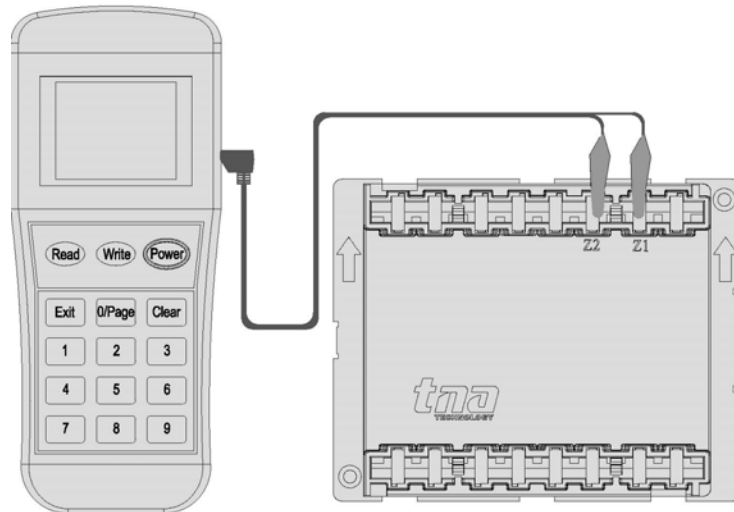

Figure 6: Programmer Connection Details
1. Connect the programming cable to Z1 and Z2 terminals (Figure 6). Press **"Power"** to switch on the unit.
2. Connect the programming cable to Z1 and Z2 terminals (Figure 6). Press **"Power"** to switch-on the unit.
1. Connect the programming cable to Z1 and Z2 terminals (Figure 6). Press **"Power"** to switch-on the unit.